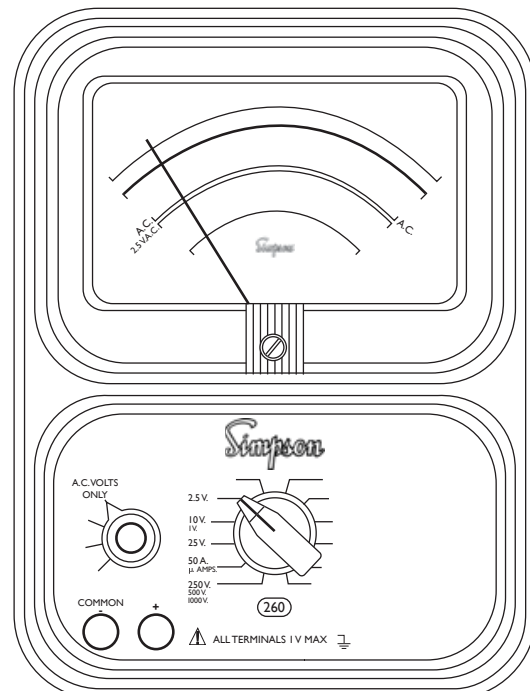

FIGURE 4-5. Jacks and Switch Positions for Measuring AC Voltage 0-2.5 through 0-250V Ranges
- a. Set the function switch to AC Volts Only position (Figure 4-5).